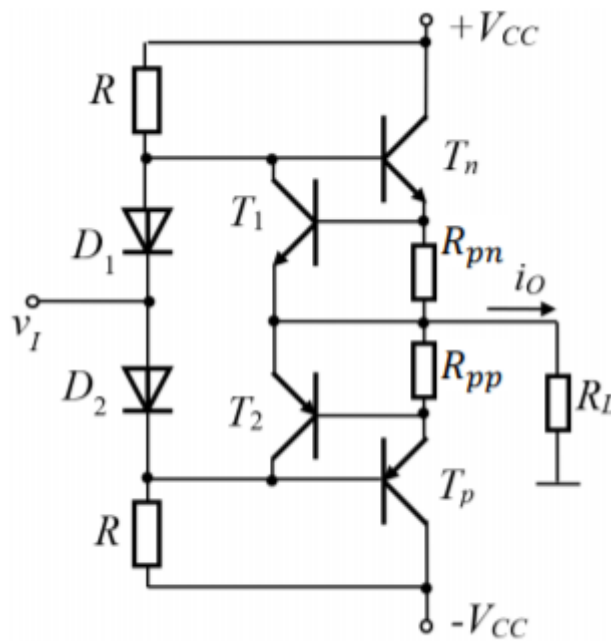

Figure 6-Class AB power amplifier
To compute the resistances R from fig 6, I used formulas from [10]:
Using the formulas (21) we can compute the protection resistances Rpn, Rpp from fig6:
To compute the resistances R from fig 6: